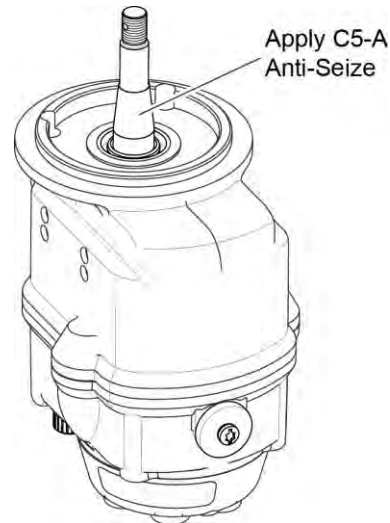

Figure 5
- (1) Apply a light coat of C5-A Copper-Based Anti-Seize compound to the tapered section of the magneto driveshaft (Figure 5).
- (2) Install the magneto magneto gear or impulse coupling (whichever is applicable) on the magneto driveshaft.
- (3) Remove excess anti-seize compound from the magneto driveshaft.
- (4) Install the gear nut on the magneto drive shaft. Torque the gear nut per the magneto manufacturer's instructions.